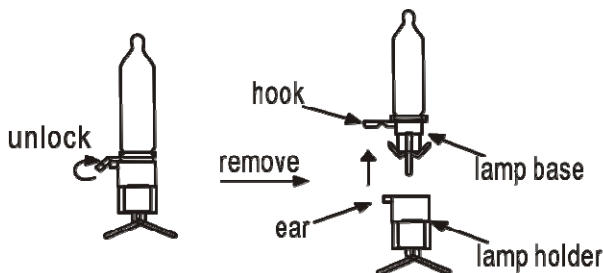

Fig. 1 Unlock and remove the burned out lamp
- 2) Unlock the burned out LED lamp by lifting the hook and pull lamp and plastic base straight out of lamp holder as shown in Fig. 1.